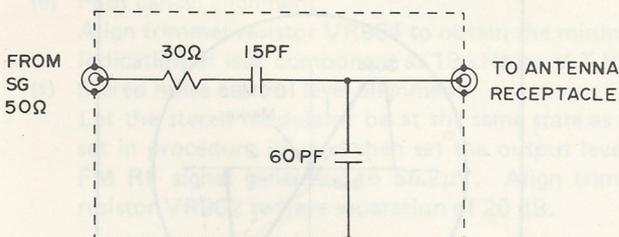

Fig. 4
- (a) Connect V.T.V.M. to the speaker output of either channel, and AM signal generator output to the antenna receptacle through a matching pad shown in Fig. 4.